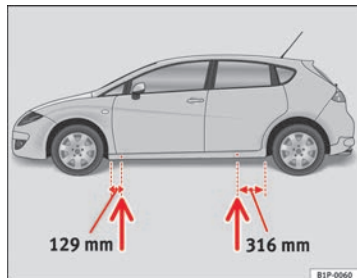

Fig. 157 Jack position points
- Locate the jacking point under the door sill closest to the wheel to be changed ⇒ fig. 157.
Recesses at the front and rear of the door sills mark the jacking points ⇒ fig. 157. There is only one jacking point for each wheel. Do not fit the jack anywhere else.